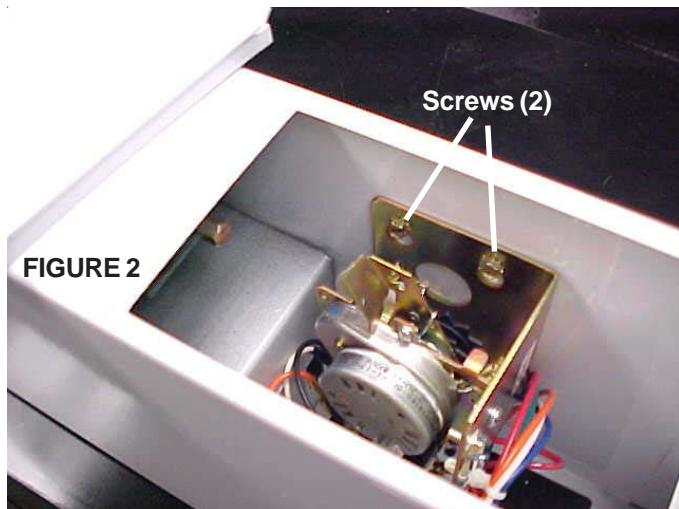

FIGURE 2
1. Loosen two screws securing timer bracket to meter case and lift timer assembly out. See FIG. 2